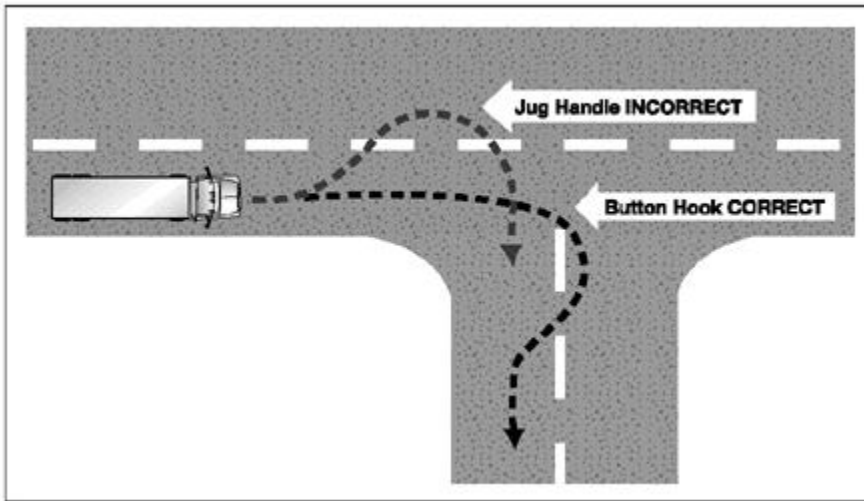

Figure 2-13
- If you must cross into the oncoming lane to make a turn, watch out for vehicles coming toward you. Give them room to go by or to stop. However, don't back up for them, because you might hit someone behind you. See Figure 2.13.